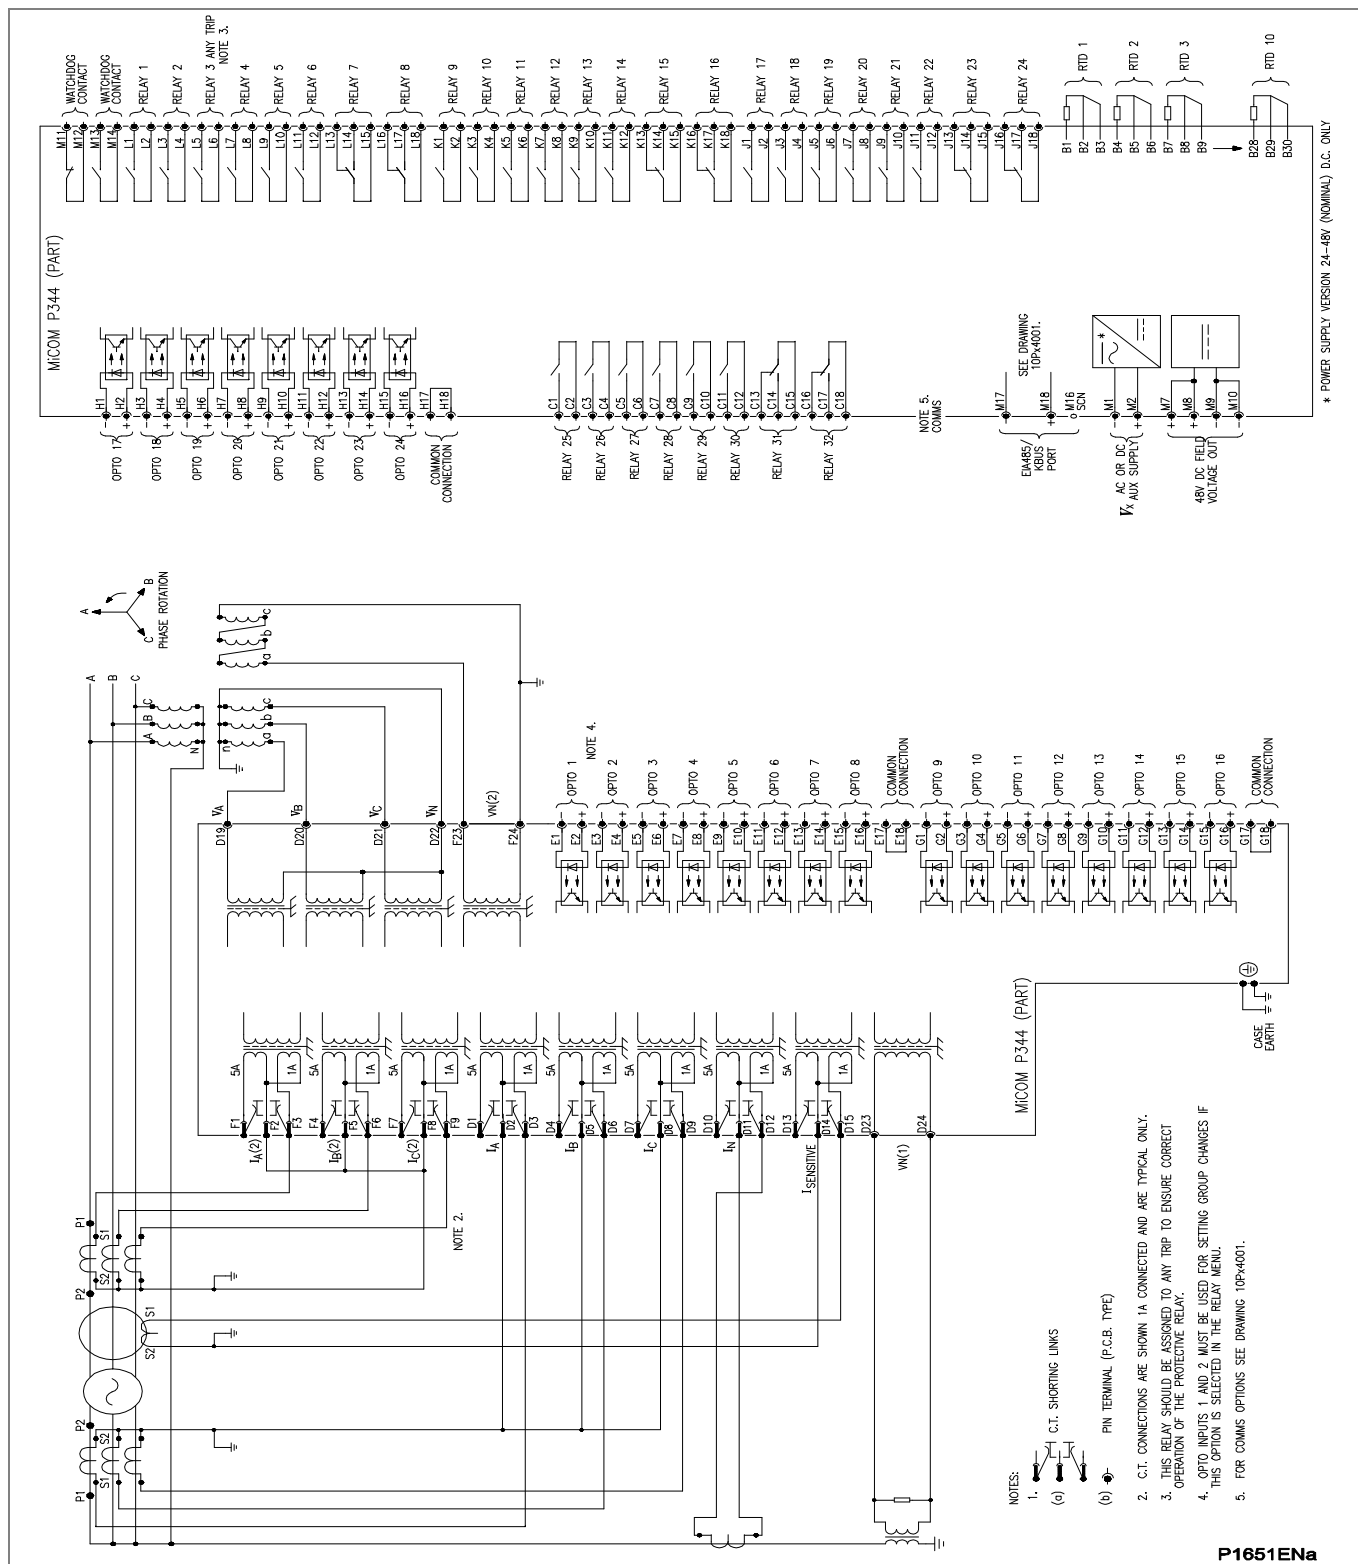

Figure 44 - P344 (80TE) with biased differential and zero sequence voltage interturn (24 I/P & 32 O/P & RTD's)
- Figure 44 - P344 (80TE) with biased differential and zero sequence voltage interturn (24 I/P & 32 O/P & RTD's)